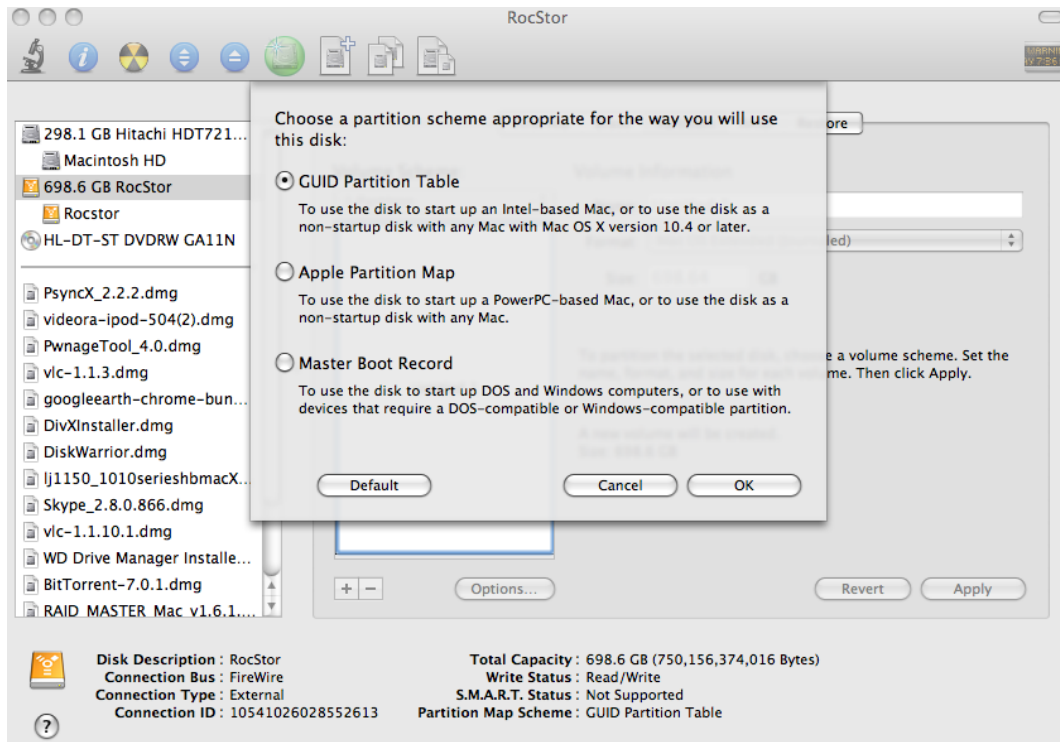

Figure 6.0
11. If you are using Tiger, Leopard, Snow Leopard or Lion click on Options on the lower center of the window. Select the Partition Scheme for your Rocstor drive. Suggest you select “**Apple Partition Map**” for Tiger, Leopard, Snow Leopard and GUID partition table for Lion, (figure 6.0) and then click OK.